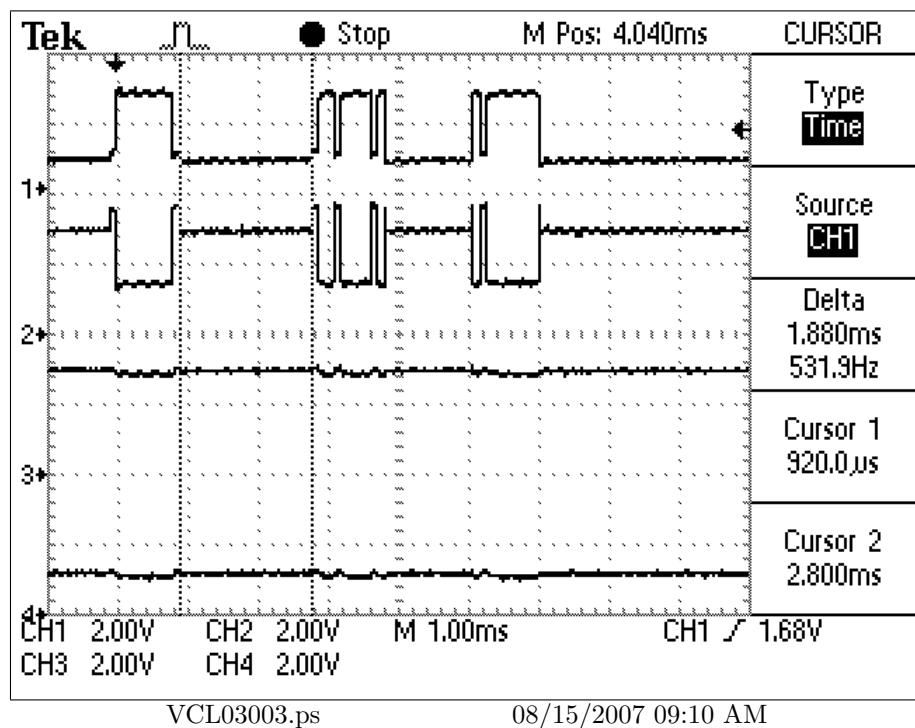
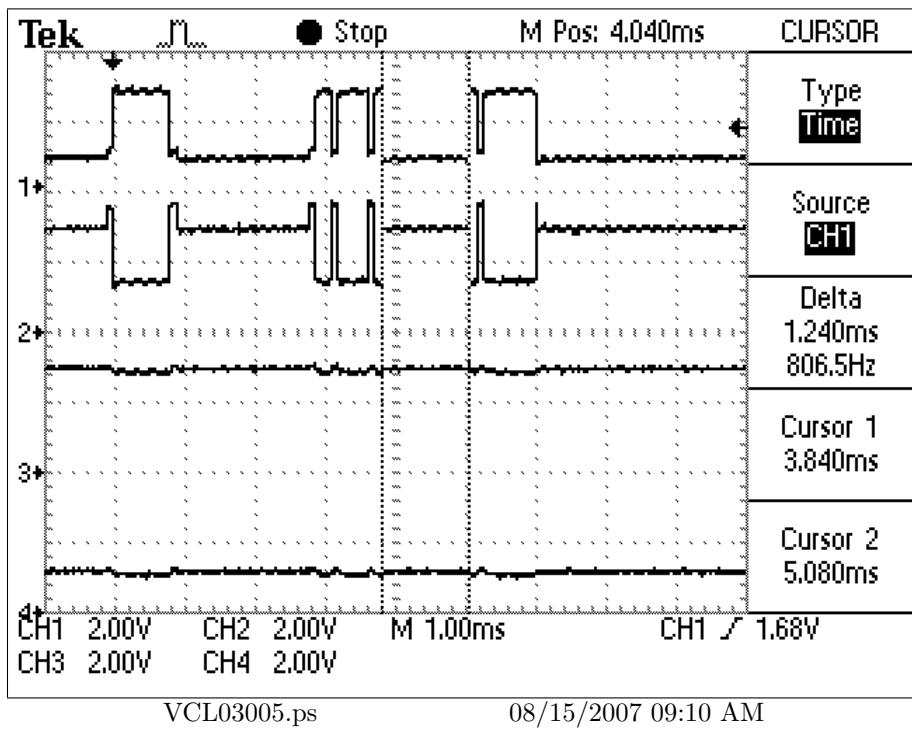
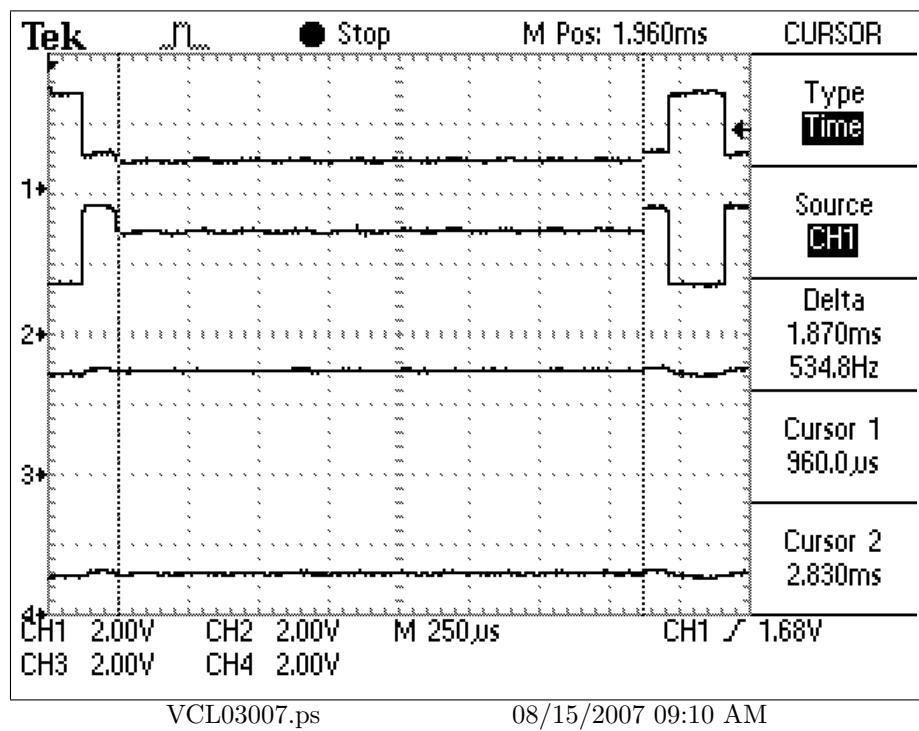
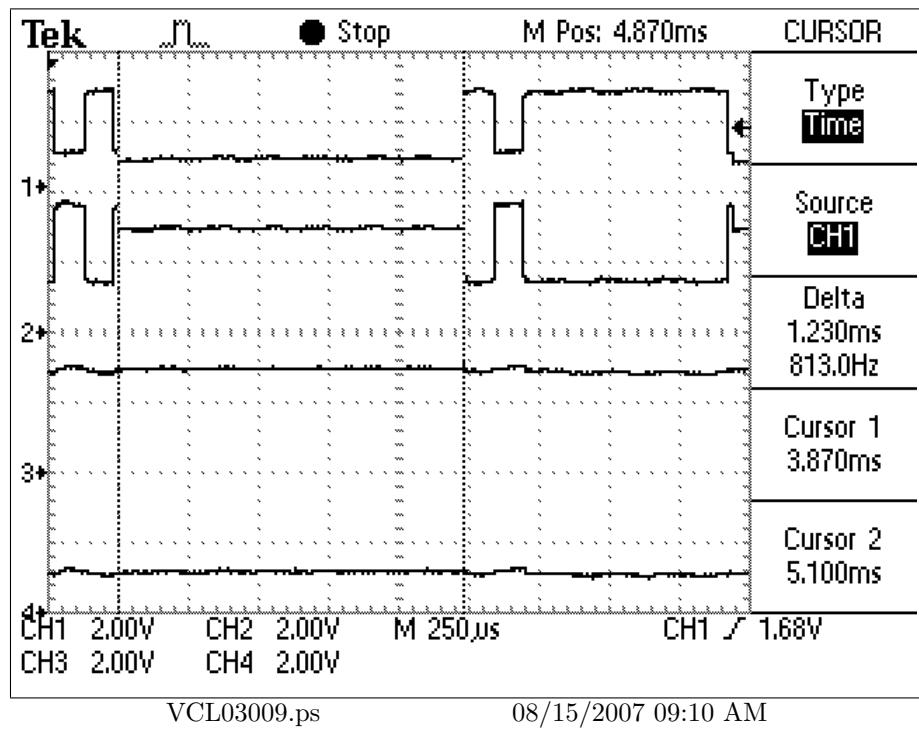

Figure 7: Timing for gap 1 [capture3:gap1]
Figure 8: Timing for gap 2[capture3:gap2]
Figure 9: Timing for gap 1 expanded [capture3:gap1ex]
Figure 10: Timing for gap 2 expanded [capture3:gap2ex]
2. In Figure 7, page 13 and Figure 8, page 14 are the two included gaps. In Figure 9, page 15 and Figure 10, page 16 the same time is shown on an expanded time frame.